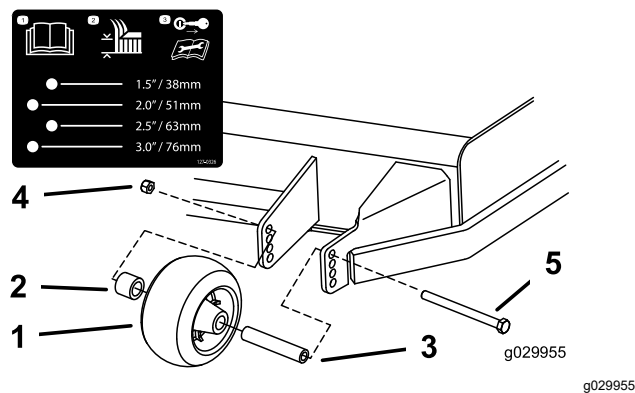

Figure 29
- 3. Adjust the anti-scalp rollers as shown in Figure 29.